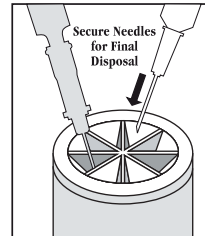

Fig. 2
4. Perform skin wheal with desired needle (25 Ga. or 22 Ga. needle). In kits where provided, a SharpsAwayII™ Locking Disposal Cup is used for the disposal of needles. Firmly push the needles into the disposal cup holes (refer to Fig. 2). Once placed into the disposal cup, the needles will be automatically locked in place so that they can not be reused. Discard the entire cup at completion of the procedure. **Precaution: Do not attempt to remove needles that have been placed into cup. These needles are permanently locked in place. Damage may occur to the needle if it is forced out of the disposal cup.**